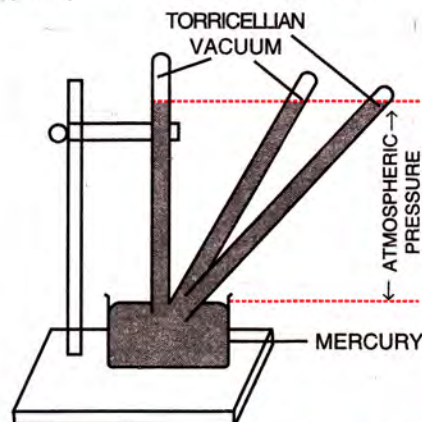

Fig. 4.19 Tilting of the barometer tube
Note : (1) The barometric height remains *same* even when the shape of tube is changed or the length of tube submerged inside mercury in the trough is changed or tube is tilted from its vertical position as shown in Fig 4.19.